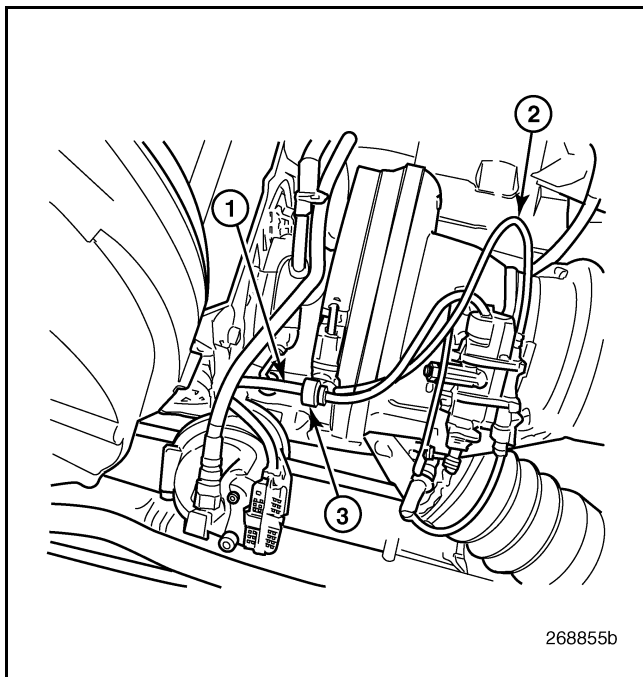

Figure 531 — Vane Position and Wheel Speed Sensor Harness Routing
13. After the VTG vane position calibration has been successful, complete the installation procedures by routing the vane position sensor and turbocharger wheel speed sensor wire harnesses as shown in Figure 531.